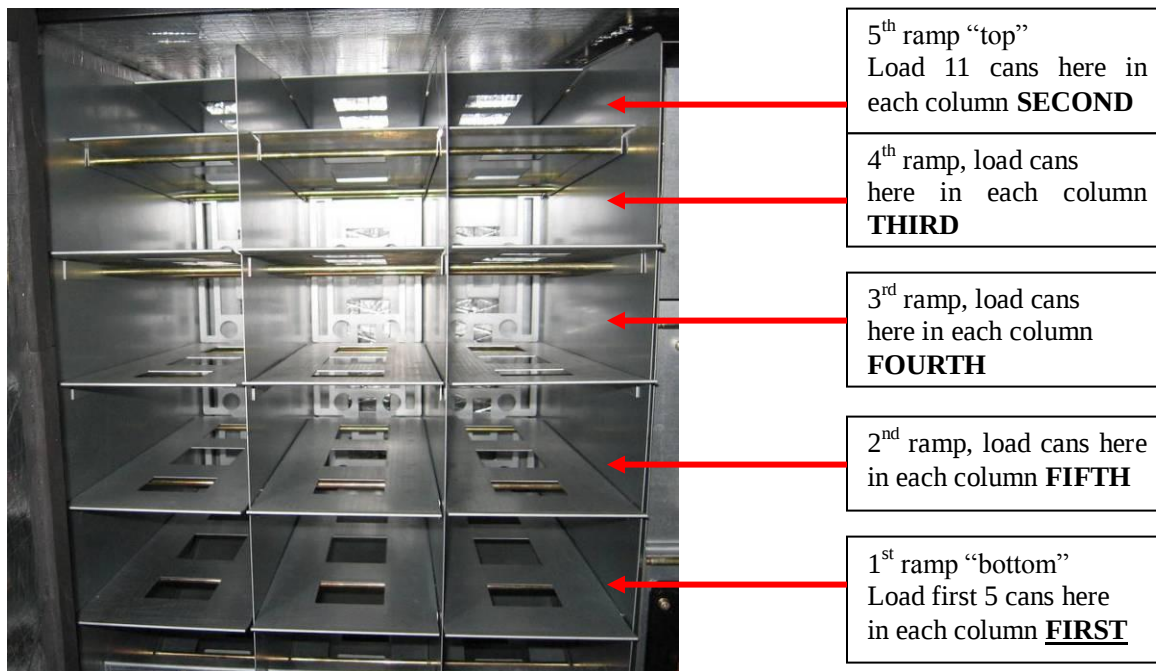

Figure 21 – Locations D1 –D3 of Beverage section
1. The 12oz cans may be loaded in any either direction (*Figure 21*).